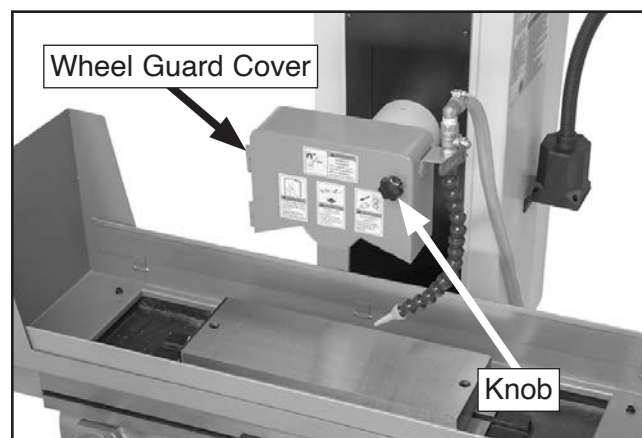

Figure 44. Wheel guard components.
3. Loosen knob shown in **Figure 44**, then open wheel guard front cover.